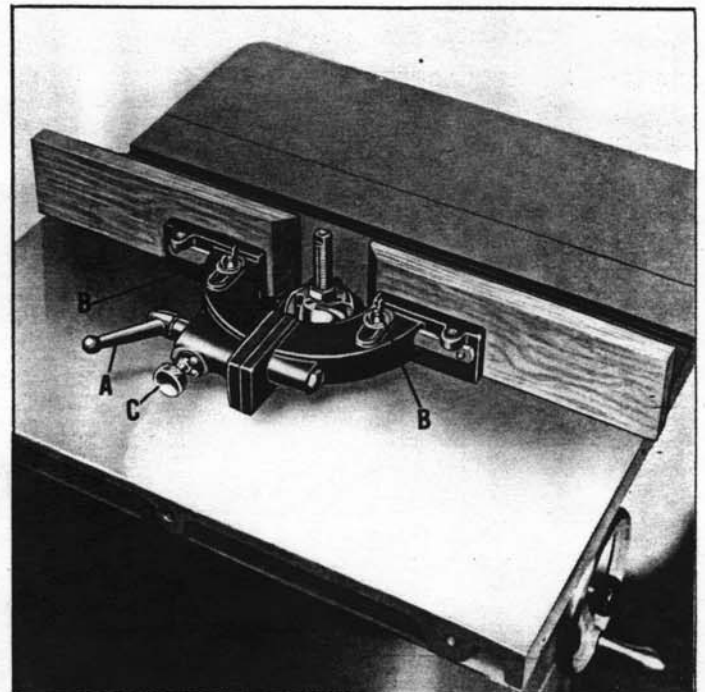

Fig. 6
Either half of the fence can be moved independently depending on the type of work you are doing. To move the fence, loosen the lock handle (A) Fig. 6, and loosen one of the wing nuts (B) depending on which fence half is to be moved. Turn the knurled knob (C) until the correct setting is obtained. Then lock wing nut (B) and lock handle (A).